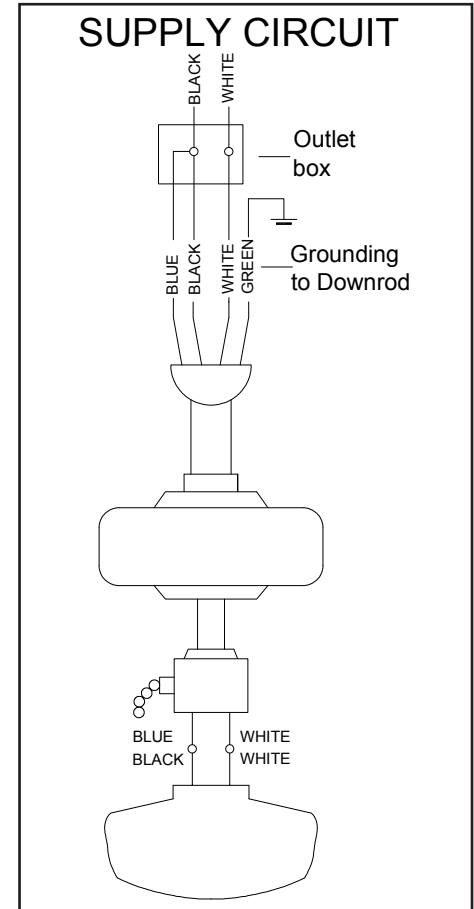

Figure 9
Follow the steps below to connect the fan to your household wiring. Use the wire connecting nuts supplied with your fan. Secure the connectors with electrical tape. Make sure there are no loose strands or connections. (Figure 9)
3. Connect the fan supply (black and blue) wire to the black household supply wire as shown in figure 9.